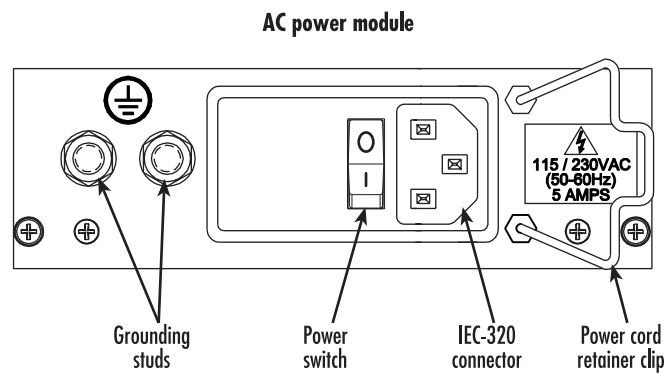
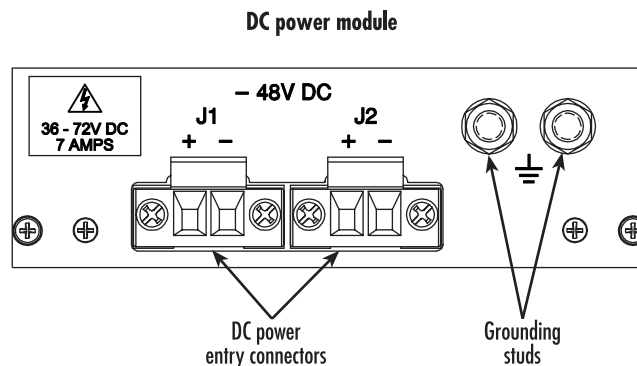

Figure 15. IEC-320 connector and grounding stud locations
Figure 16. DC connector, -DC and +DC input view
1. Install a power cable into an IEC-320 connector (see figure 15). The AC main socket outlet shall be within 3 meters of the equipment and shall be easily accessible.
2. Rotate the power cable retainer clip (see figure 15) so it secures the power cable plug in the IEC-320 connector.
2. Install the ground wire between the grounding studs (see figure 15 on page 45 for AC power entry, or figure 16 on page 46 for DC power entry) and the grounding source.